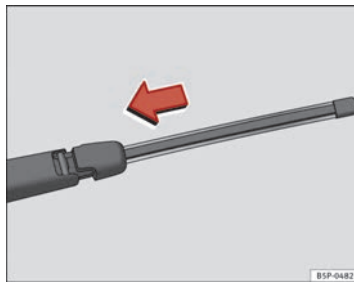

Fig. 131 Fitting the rear window wiper blade ▶
- Place the blade as shown in the → fig. 131 and slide the adapter along until it engages.